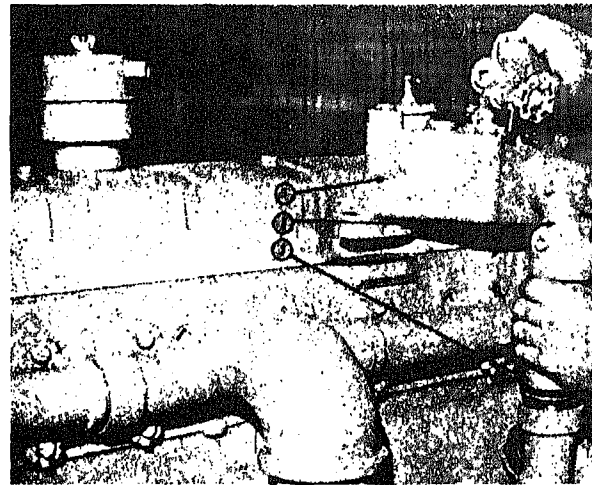

Fig. 0-25. Removing thermostat housing assembly
3. Lift thermostat housing (1), by-pass connection (2), and by-pass coupling(s) (3), off engine, Fig. 0-25.